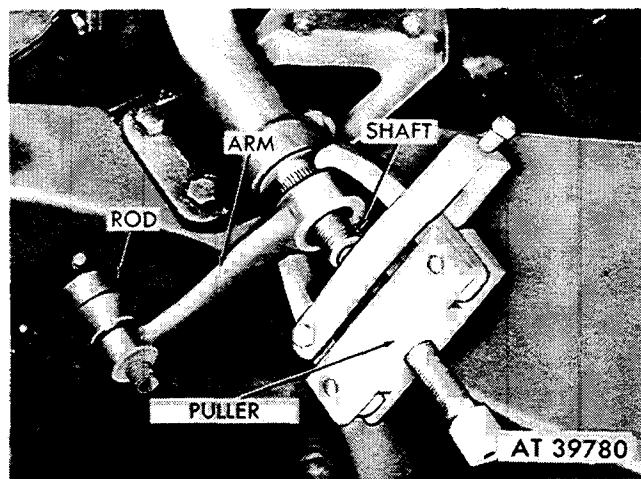

Figure 2-351. Remove Pitman arm using puller.
(3) Use suitable puller and remove Pitman arm from sector shaft and from idler arm rod (fig. 2-351).
b. *Installation.* Refer to removal operations (3) back to (1). Before installing Pitman arm, rotate steering wheel to maximum turn. Reverse rotation approximately  $15/6$  turns until one spoke of steering wheel is at the bottom and is in line with centerline of steering column. Point wheels in straight ahead position. Point Pitman arm straight ahead, align fluted serrations on arm and sector shaft and install Pitman arm. Tighten steering Pitman arm to sector shaft nut to 100-110 lb-ft. torque. Tighten nut on ball socket stud to 35-45 lb-ft. and install new cotter pin.